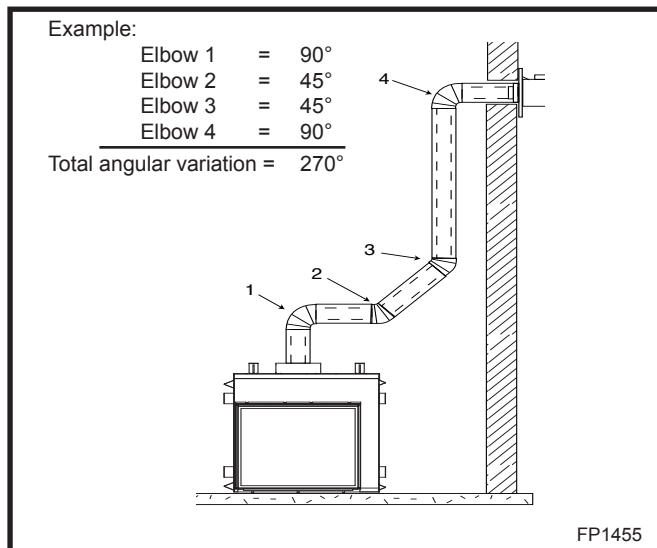

Fig. 17 Maximum number of elbow degrees.
- The maximum number of elbow degrees in a system is 270°. (Fig. 17)